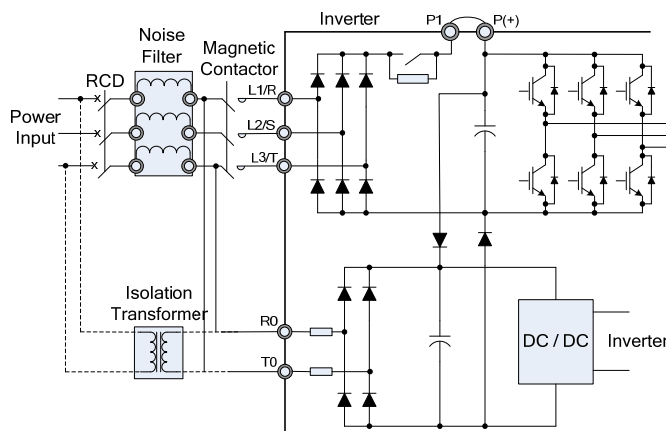

Fig. 2-3-2 Connecting the Auxiliary Control-Power Input Terminals
The inverter will operate even if power is not provided to these terminals. If a protective circuit is activated and the magnetic contactor on the inverter power input side is opened (off), the inverter control circuit power, the alarm output (30A, B, and C), and the keypad display will lose power. To prevent this, the same AC power as supplied to the main input circuit must be supplied (as auxiliary control power) to the auxiliary control - power input terminals (R0 and T0). (see Fig. 2-3-2)
- b. When the RCD (Residual-current Protective Device) is installed (30HP/CT, 40HP/VT or less), the terminal R0 and T0 should be connected to the output side of the RCD. If they are connected to the input side, the RCD will malfunction because the power supply of the inverter is three phase and the R0 and T0 input is single phase. If it is required to connect terminals R0 and T0 are to the input side of the RCD, an isolation transformer is required as shown on the Fig. 2-3-2.